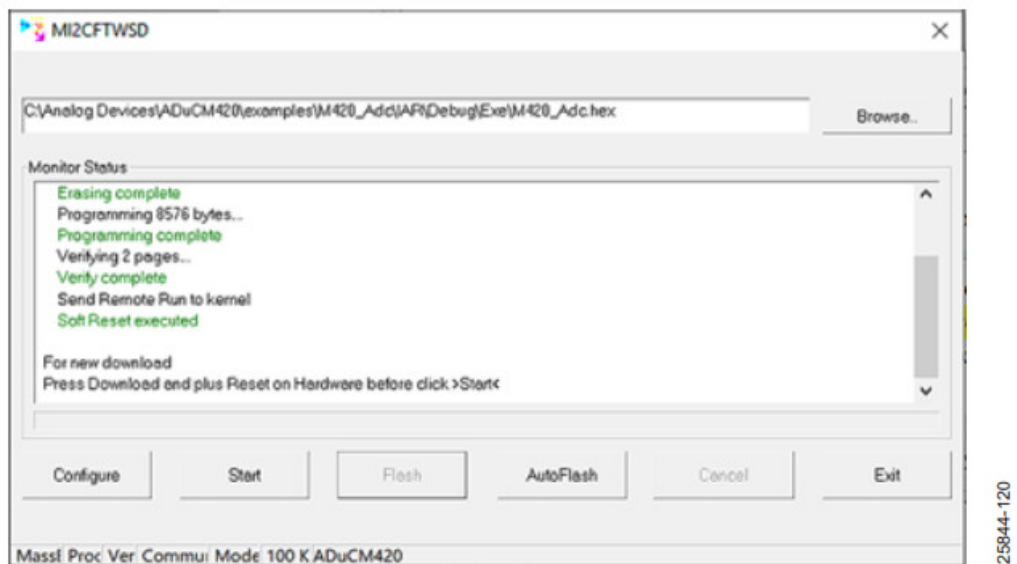

Figure 23. Complete Mass Erase
7. After I²C connection is established. Click the Run button and it automatically flashes the device and either mass erases or downloads the program, depending on the configuration that the user selected in Step 4. Figure 23 shows an example of a complete mass erase on the device.